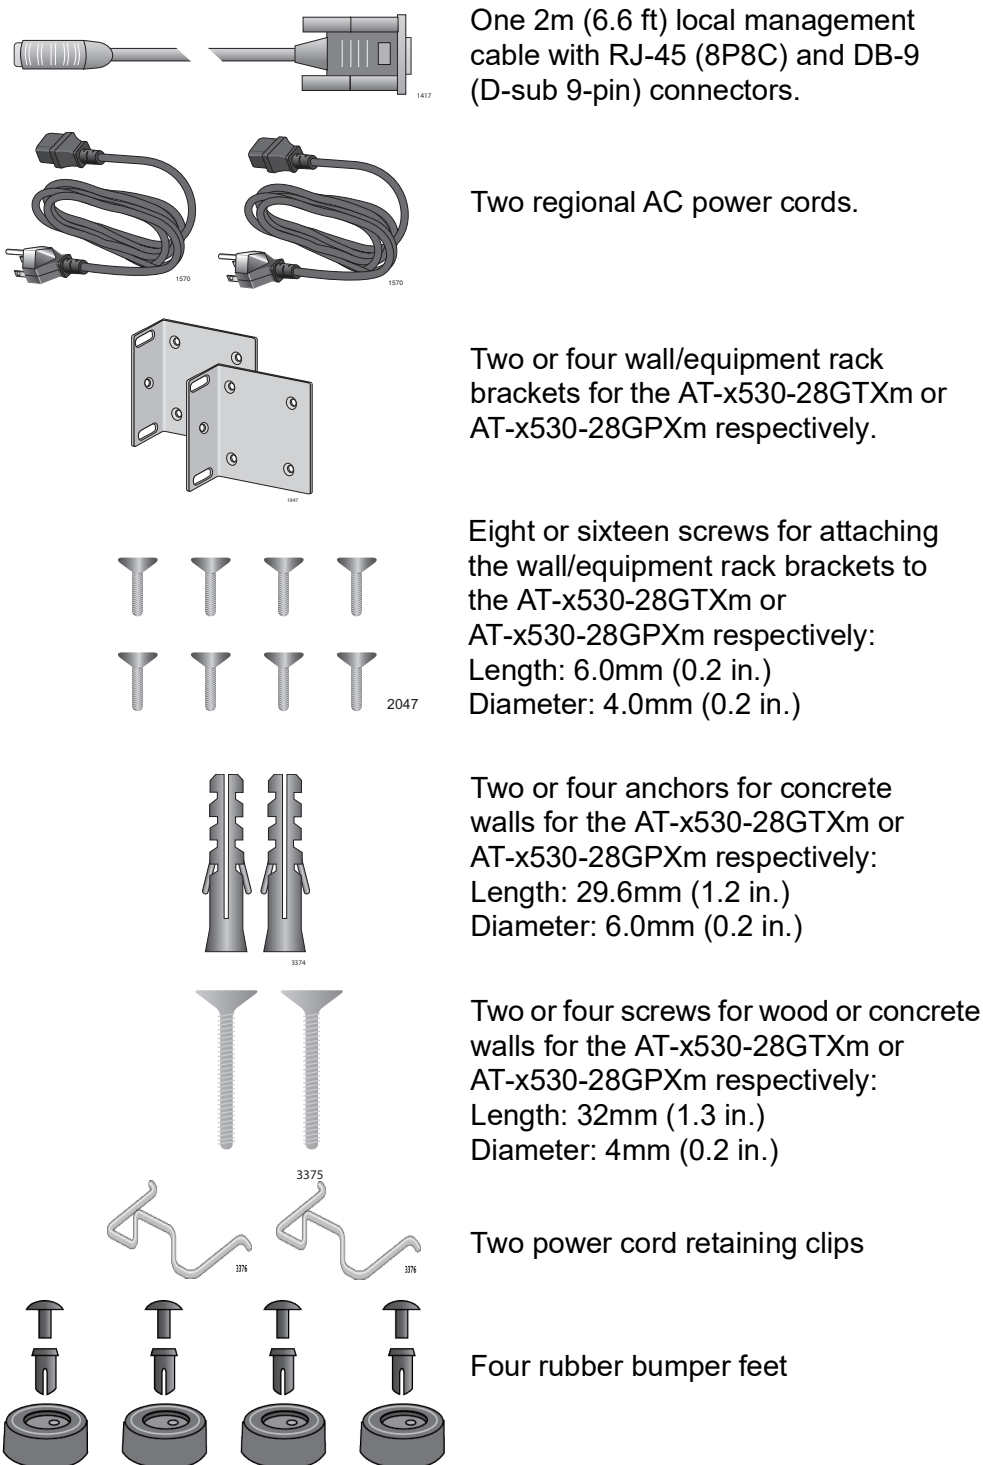

Figure 10. Accessory Kit Items
- ❑ Accessory kit (refer to Figure 10 on page 48)
Figure 10 lists the items that are included in the accessory kit. Contact your Allied Telesis sales representative for assistance if any item is missing or damaged.